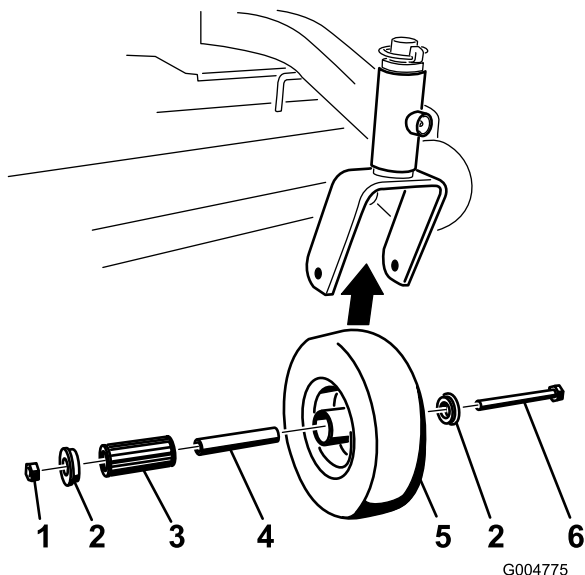

Figure 44
1. Remove the locknut and wheel bolt holding the caster wheel to the caster fork (Figure 44).
- Remove one bushing, then pull the spanner bushing and roller bearing out of the wheel hub (Figure 44).
- Remove the other bushing from the wheel hub and clean any grease and dirt from the wheel hub (Figure 44).
- Inspect the roller bearing, bushings, spanner bushing and inside of the wheel hub for wear. Replace any defective or worn parts (Figure 44).
- To assemble, place one bushing into the wheel hub. Grease the roller bearing and spanner bushing and slide them into the wheel hub. Place the second bushing into the wheel hub (Figure 44).
- Install the caster wheel into the caster fork and secure with the wheel bolt and locknut. Tighten the locknut until the spanner bushing bottoms against the inside of the caster forks (Figure 44).